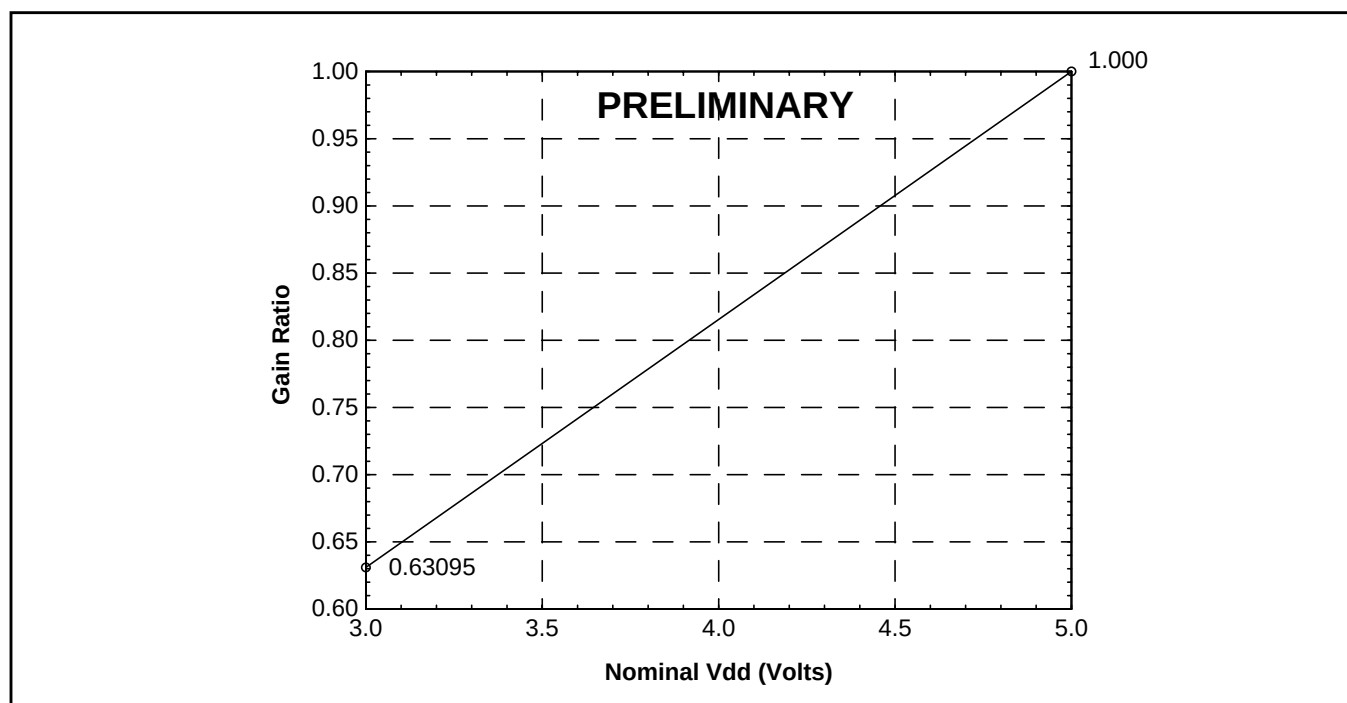

Figure 9 - GS1 and GS2 Gain Ratios as a Function of Nominal Vdd
The MT88E46 is designed to operate from a fixed voltage power supply between 3 and 5V nominal. A $\pm 10\%$ variation from the nominal voltage is allowed. Its FSK and CAS reject levels are proportional to V_{dd} . When operated at V_{dd} equals $3V \pm 10\%$, to keep the FSK and CAS reject levels as at $5V \pm 10\%$, and for optimal speech immunity, the GS1 and GS2 op-amp gains should be reduced from those of 5V. Gains for nominal V_{dd} 's between 3 and 5V can be obtained by interpolation between the 3V and 5V values shown in Figure 9.
- For the desired nominal Vdd, use Figure 9 to calculate approximate A_v .